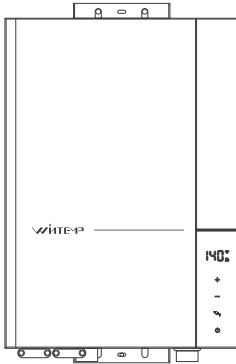
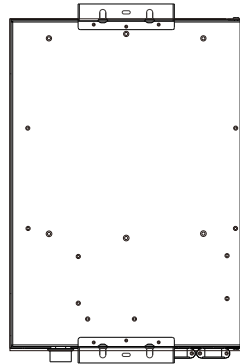

Fig 1
Fig 2
Step 1: Shows the front (Fig 1) and back (Fig 2) of the appliance for orientation.